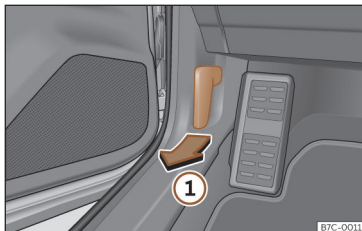

Fig. 195 Release lever in the driver's footwell area.
- Open the door and pull the lever under the dashboard»» Fig. 195 ①.